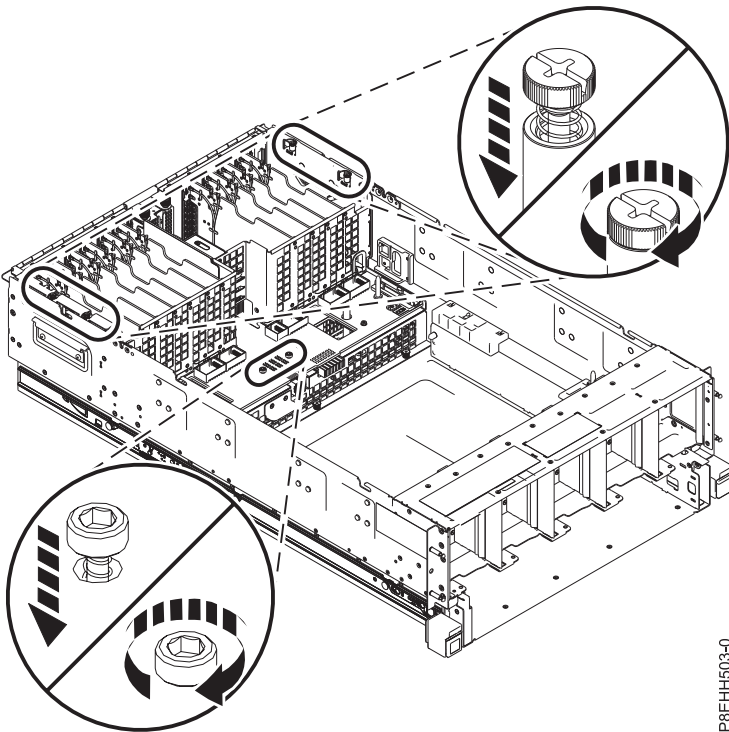

Figure 16. Tightening the I/O backplane screws
- b. Tighten the four captive screws that secure the sides of the I/O backplane by using a #1 Phillips screwdriver. Tighten the two captive screws in the center of the I/O backplane by using a 4 mm Allen wrench, as shown in Figure 16.